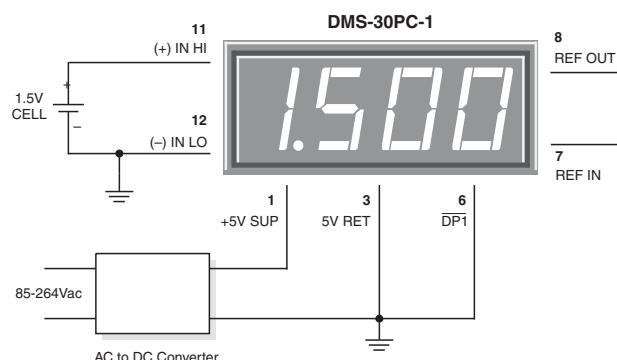

Figure 5. Floating Input Measurements
**4. Floating Signal Source Measurements:** Floating signals can be measured using the circuits shown in Figures 5 and 6. Connecting